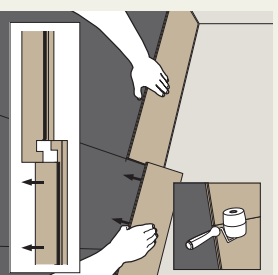

Figure 2
**5 Lay the first row in a straight line and click the head ends together. Put the short side of the profile into head end of the previous panel and press the panel downwards. It is recommended to use a hand roller for connecting the head ends so that the joint fits securely. Continue laying the first row in the same way until you get to the last piece. Figure 2**